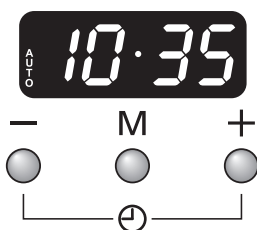

Fig. 5.10
1. Press the the [+] and [-] buttons simultaneously, then the mode [M] button. The display will show 'ton1,2 or 3' (Fig. 5.10).